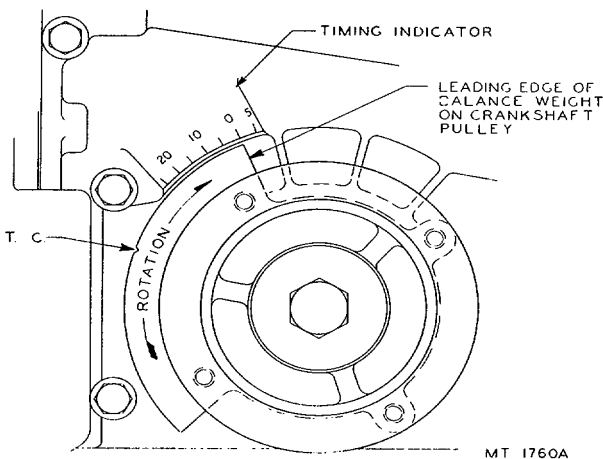

Fig. 157 Correct Position of Crankshaft Pulley Hub Balance Weight for Installing Push Rods
27. Before inserting the valve lifter rods in their respective positions, the leading edge of the balance weight of the crankshaft pulley hub should be indexed with the number "0" on the timing indicator as shown in Fig. 157. This will prevent damaging the push rods when installing the rocker arm shaft assemblies. Insert the valve lifter rods in their respective positions.